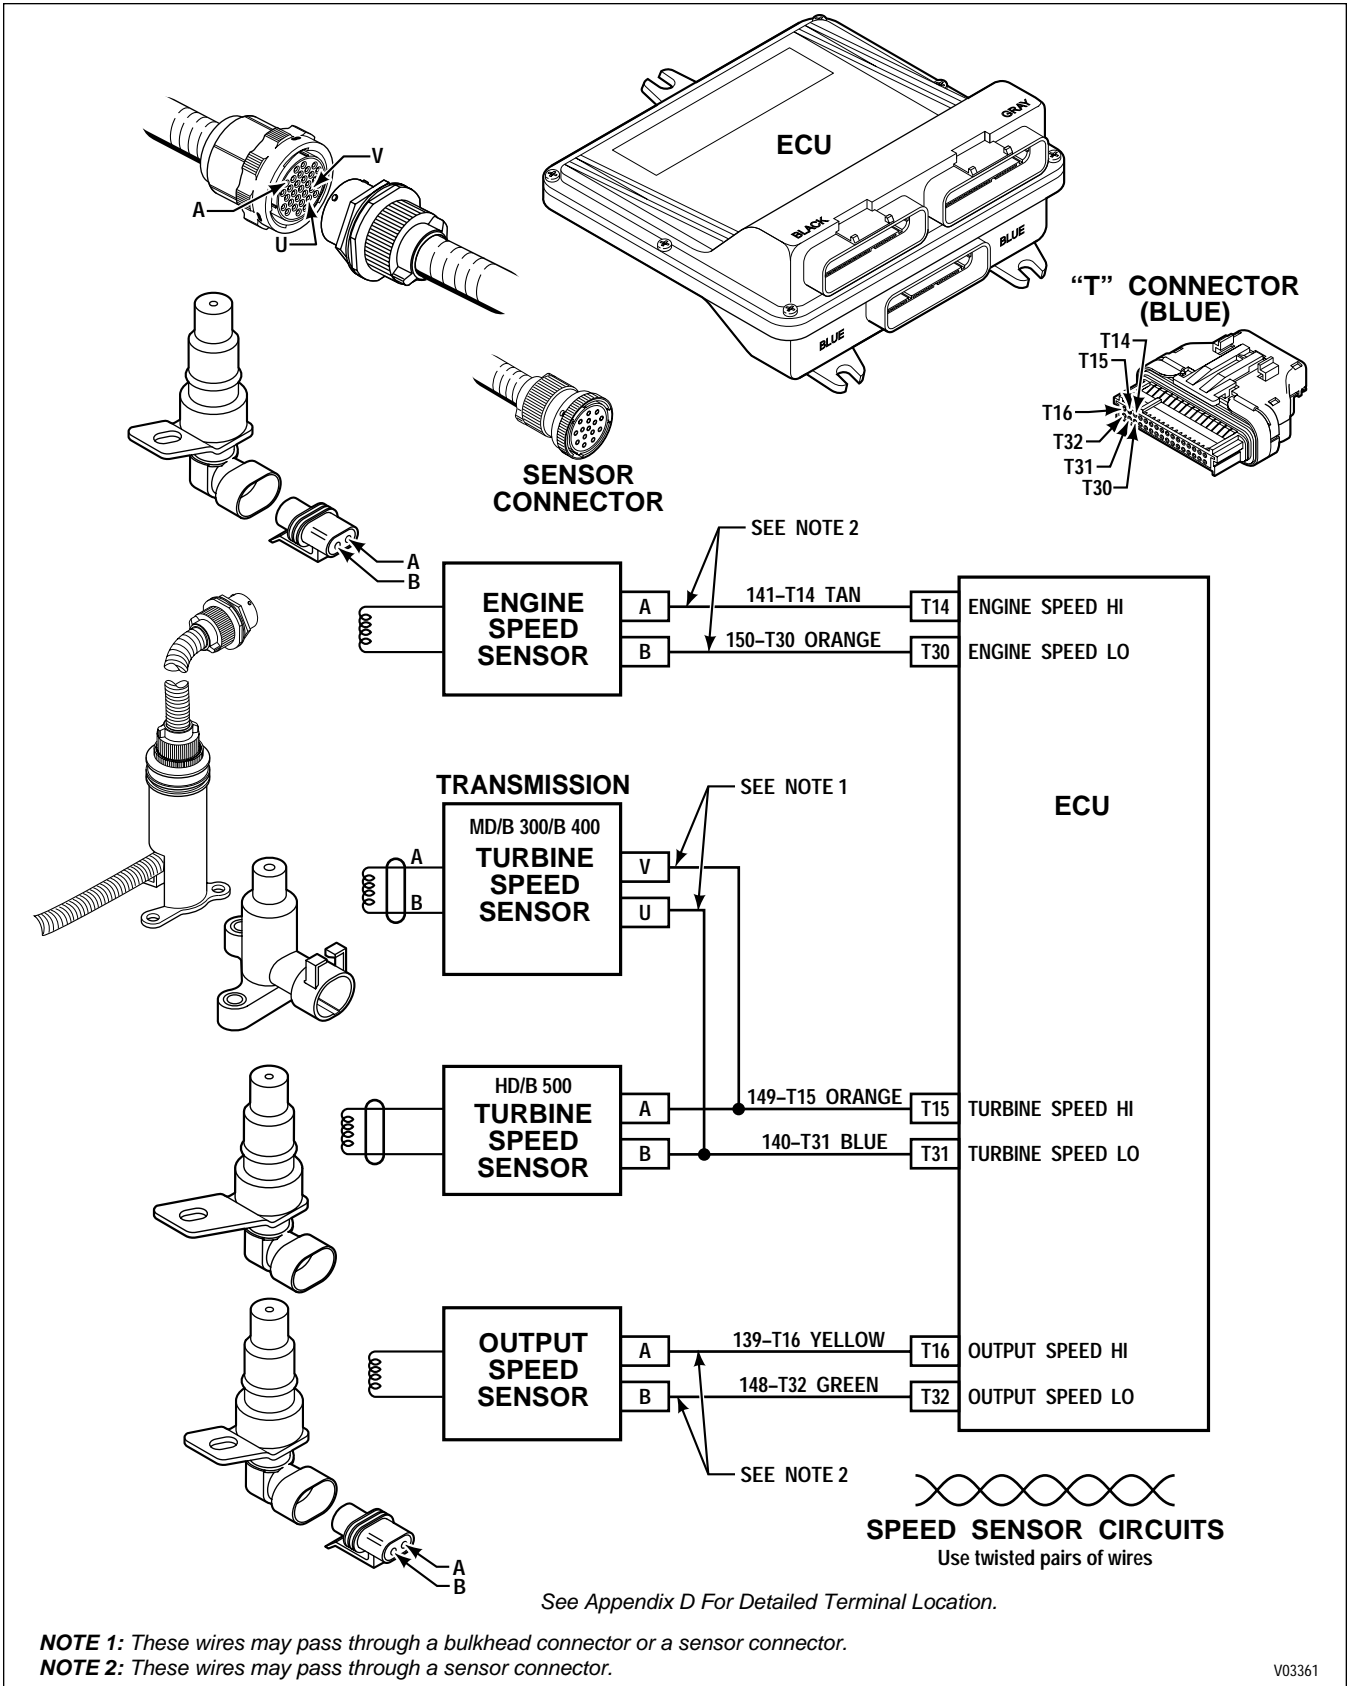

Figure 6-5. Code 22 Schematic Drawing
**CODE 22 XX — SPEED SENSOR/CIRCUITRY FAULT** (Figure 6-5)
**CODE 22 XX — SPEED SENSOR/CIRCUITRY FAULT** (*Figure 6-5*)